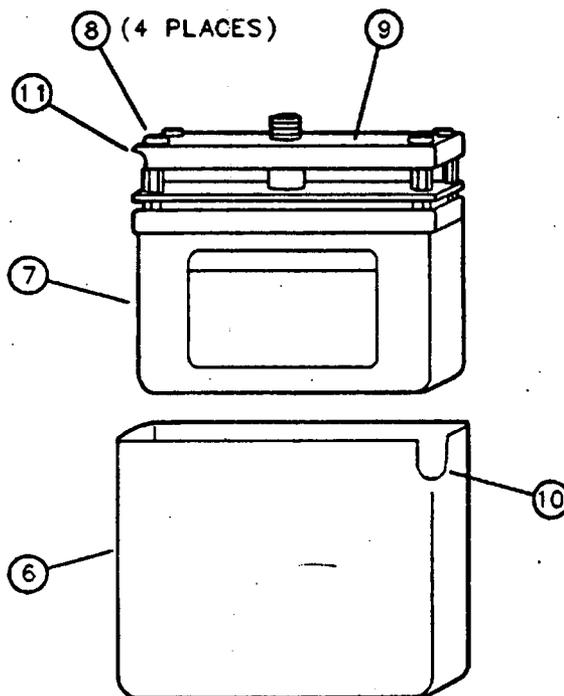

Figure 3-18. A3A7 YTO and YTO Enclosure
13. Remove the outer YTO enclosure (6). See Figure 3-18. Set the enclosure aside for use in the replacement procedure.
14. Retain the inner YTO enclosure (7) with the YTO that is being removed.
15. Remove the four screws (8) that secure the YTO cover to the YTO, and remove the cover (9). Set the cover aside for use in the replacement procedure.
1. Position the YTO cover (9) on the YTO and replace the four screws (8) that secure the YTO cover to the YTO. See Figure 3-18.
2. Make sure that the inner YTO enclosure (7) stays in position and replace the outer YTO enclosure (6) on the YTO assembly.